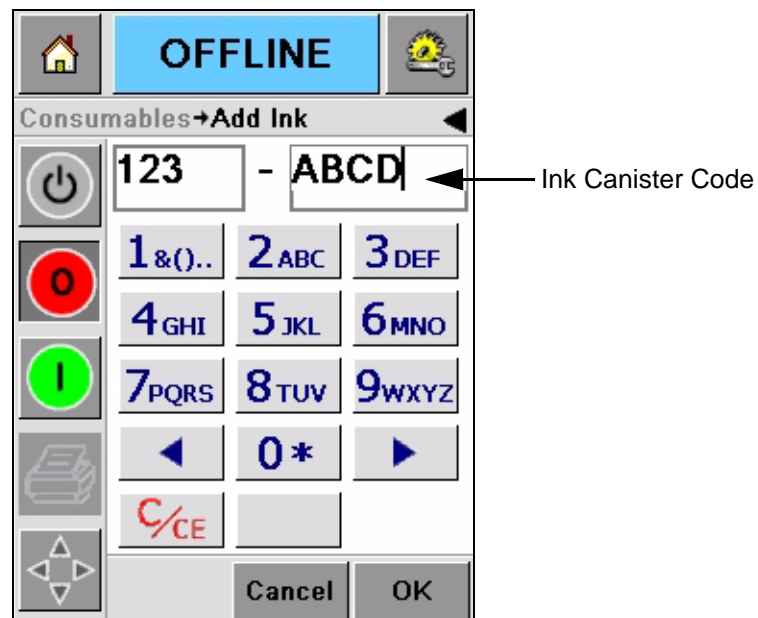

Figure 4-9: Canister Code
- 4 Enter the unique ink canister code found on the label of every ink canister (Figure 4-9) and touch the OK icon.